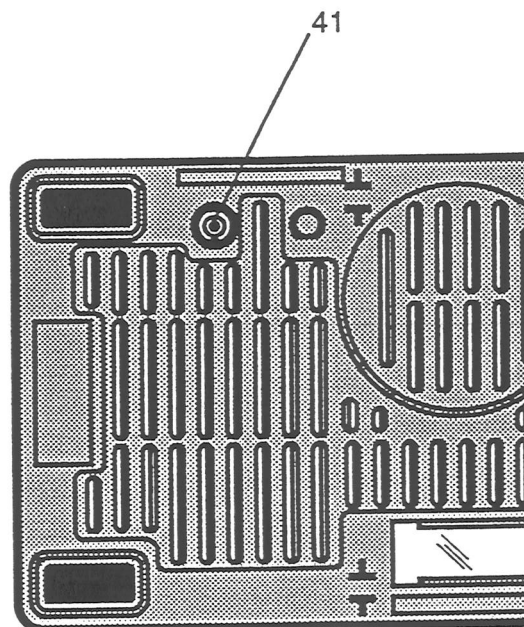

figure 8
- (2) **TRACE ROTATE** - Adjusts parallel alignment of traces horizontally (this is done using a screwdriver).
- (41) **Z MODULATION** - Inputs, via a BNC socket (41) on the rear panel (Figure 8), a TTL signal to extinguish the spot (0 V level → trace on, 5 V level → trace off).